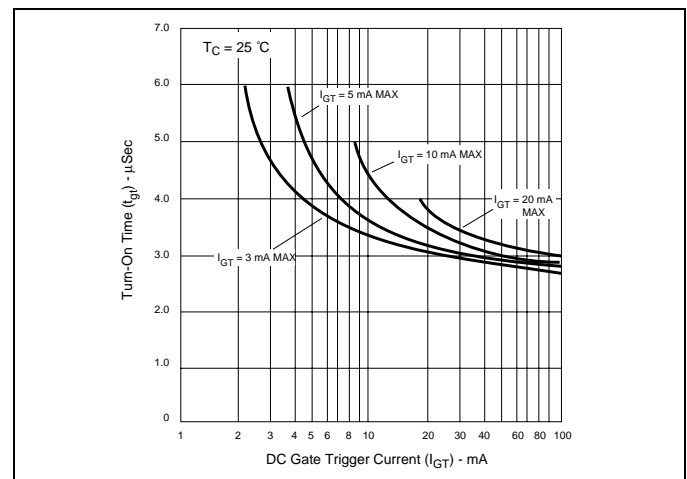

Figure E1.8 Turn-on Time versus Gate Trigger Current (Typical)
- (9) See Figure E1.8 for  $t_{gt}$  versus  $I_{GT}$ .